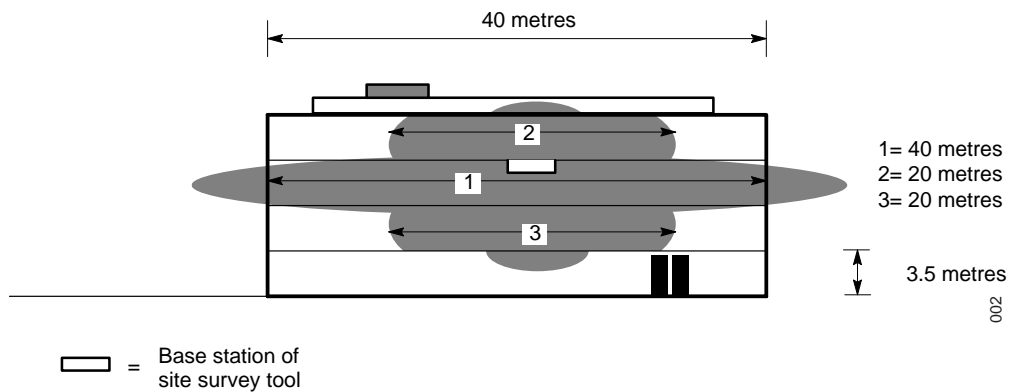

Figure 8. Measurement of typical cell size
#### Measure the horizontal cell size on the middle floor, see (1) in figure 8
#### Measure horizontal range on floor above, see (2) in figure 8
#### Measure Horizontal Range on floor below, see (3) in figure 8
In this way the horizontal and vertical coverage of a single base station in a typical area is found, see figure 8. The cell size found can be taken as an average, used to calculate the total number of base stations. Depending on the size of the building and the type of construction, one or two more 'random checks' in typical areas can be done to verify the first measurement. The typical cell size is determined by averaging the values.